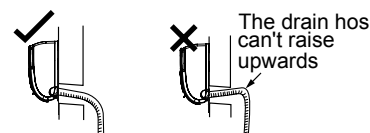
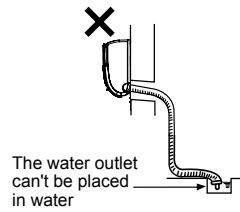

Fig.25
Fig.27
- (1) The through-wall height of drain hose shouldn't be higher than the outlet pipe hole of indoor unit.(As show in Fig.25)
- (2) Slant the drain hose slightly downwards. The drain hose
- (3) The water outlet can't be placed in water in order to drain smoothly.(As show in Fig.27)